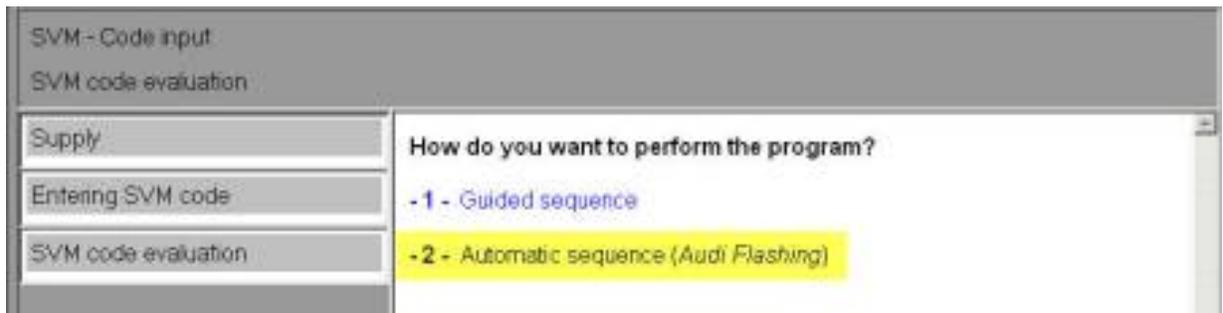

Figure 7. Selecting “Automatic sequence (Audi Flashing)”
7. When prompted, select “Automatic sequence (Audi Flashing)” (Figure 7).